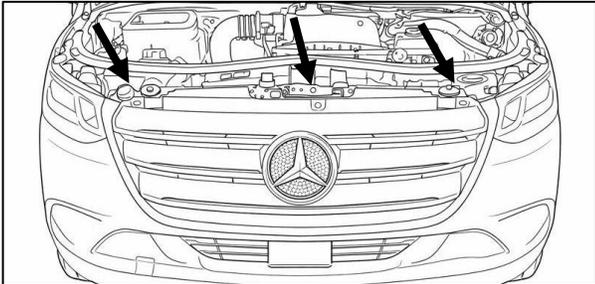

Figure 1: Grille Bolt Locations
2.  Remove the (3) screws located on the top of the grille using a T25 driver. **See Figure 1.**